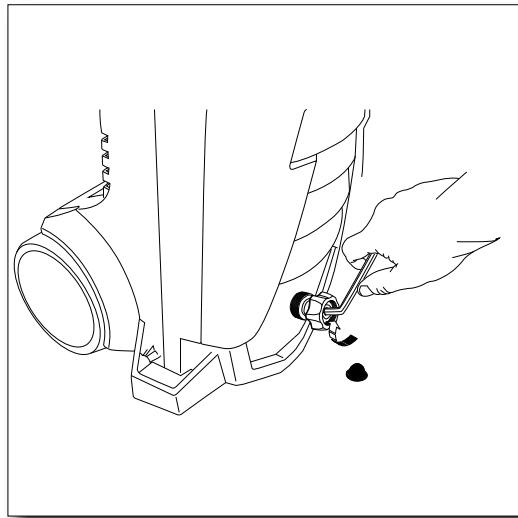

Fig. 16
- Remove washer filter, then using an 8mm or 5/16 allen wrench, tighten until snug. DO NOT over tighten. (**Fig. 16**)